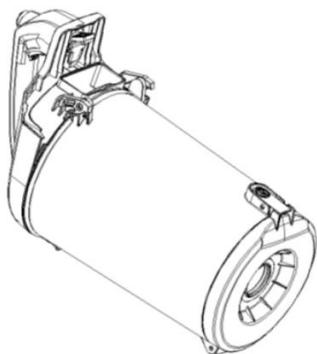

Fig.16
- 3) Fig.16 - open the HEPA cover to separate it from the dust cup cover